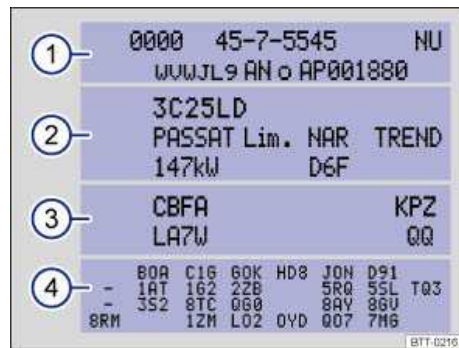

Fig. 19 Vehicle identification label: Shown in the example with engine identification code CBFA 3.
The vehicle identification label ⇒ fig. 19 is affixed to the area of the spare wheel well underneath the luggage compartment floor panel and contains the following information:
- (1) Vehicle identification number (VIN)
- (2) Vehicle type, engine output, and transmission
- (3) Engine and transmission identification codes, paint number, and interior type. In the example, the engine identification code is "CBFA" ⇒ fig. 19.
- (4) Optional equipment and part numbers